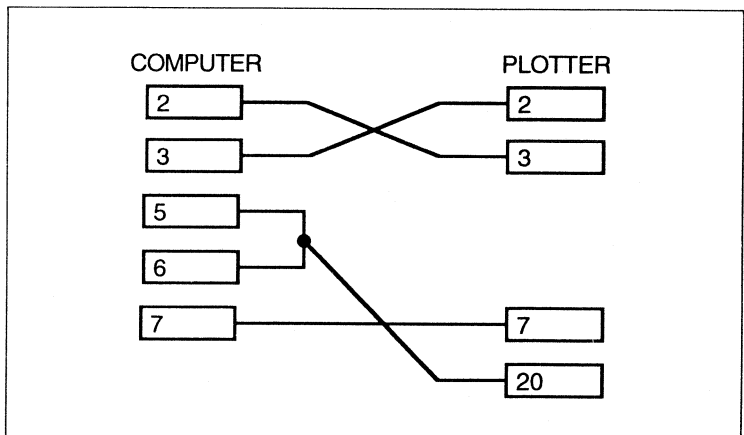
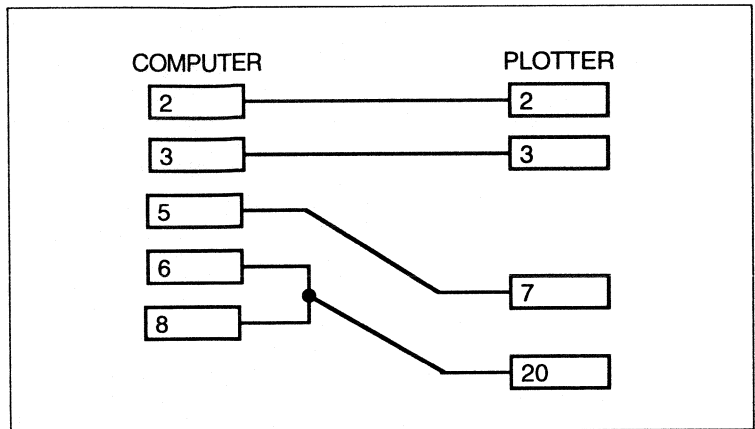
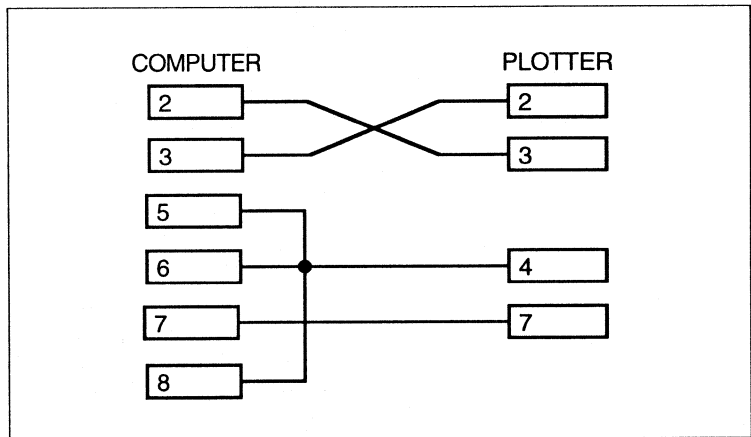

Figure E-1. 25-pin cable wiring diagram
Figure E-2. 9-pin cable wiring diagram
Figure E-3. 25-pin cable to IOline plotter
Figure E-1 is a wiring diagram showing the connections necessary to connect a 25-pin connector to a plotter. Figure E-2 is a wiring diagram showing the connections necessary to connect a 9-pin connector to a plotter. Figure E-3 is a wiring diagram showing the connections necessary for a 25-pin connector to an IOline plotter.
1. Wire the cable as shown in figures E-1, E-2, and E-3. If your plotter works with another software package, and does not work with OrCAD, the first item to check is the wiring of your cable. Chances are the other CAD packages only require the TXD and RXD signal lines. OrCAD requires additional connections.